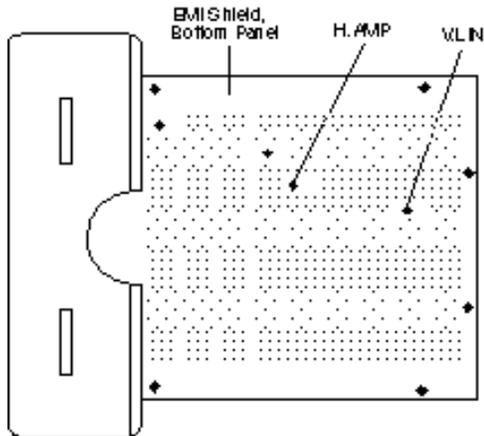

FIGURE 8
6. Using the insulated plastic screwdriver, turn the vertical linearity (V.LIN) control (**Figure 8**) until the boxes at the top of the display are the same size as those at the bottom. (With the monitor on its side, keep in mind that the top and bottom of the display are on your left and right.)
4. Using the insulated plastic screwdriver, turn the horizontal size (H.AMP) control **(Figure 8)** until the raster is 203 mm wide.